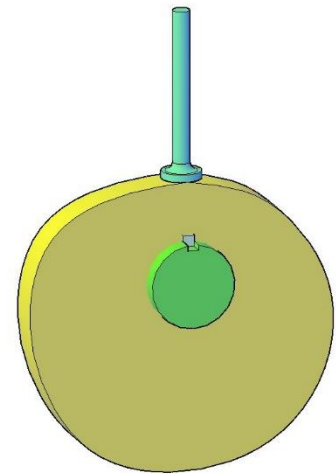
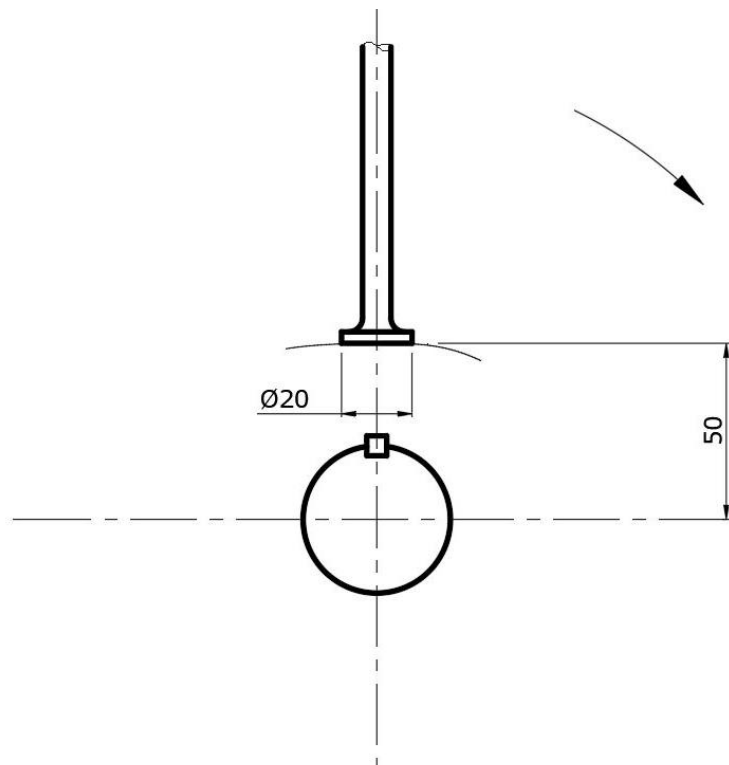

Figure 1a
Figure 1b
An illustration of a radial cam and an in-line flat-faced follower is given in Figure 1a. A dimensioned layout of the cam shaft and follower is given in Figure 1b.
- Copy Figure 1b. (1)
- Construct the follower displacement graph. (6)
- Draw the profile of the cam. (6)